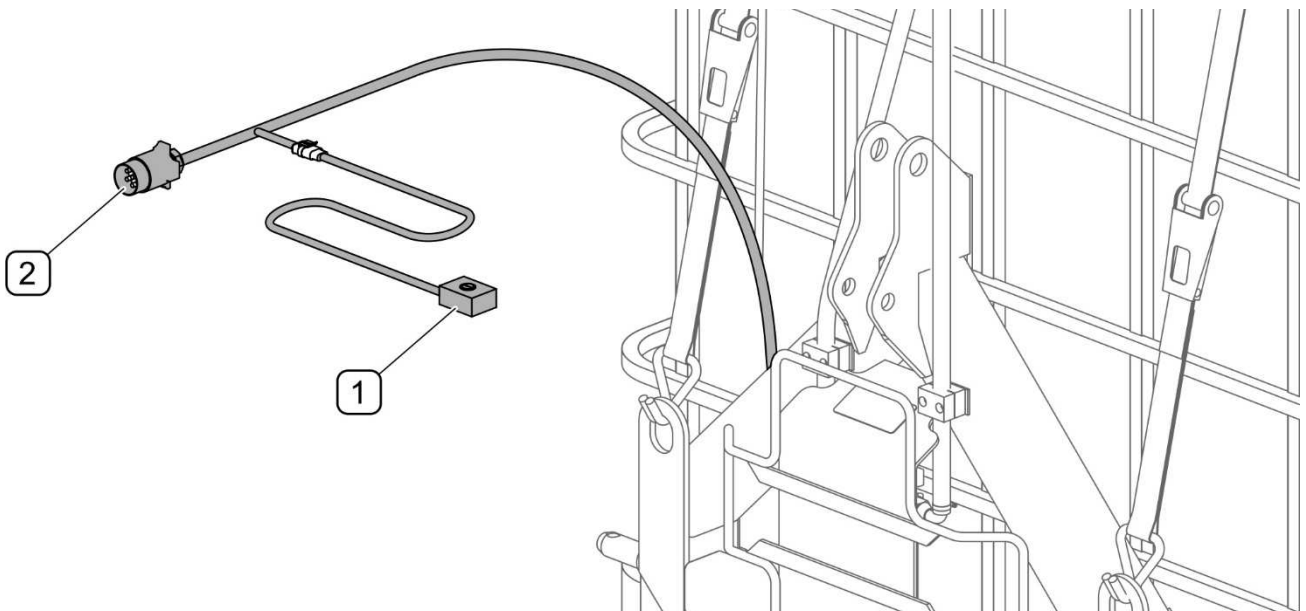

FIGURE 4.4 Controlling the water supply system
(1) - water pump switch, (1) - 12V 7-pole socket plug
Connect electrical system plug (2) to 12V 7-pole socket in the tractor (carrying vehicle). Voltage is supplied to the water supply system when the parking lights of the tractor are turned on. The water pump is switched on and off using switch (1) located on the power lead (FIGURE 4.4)